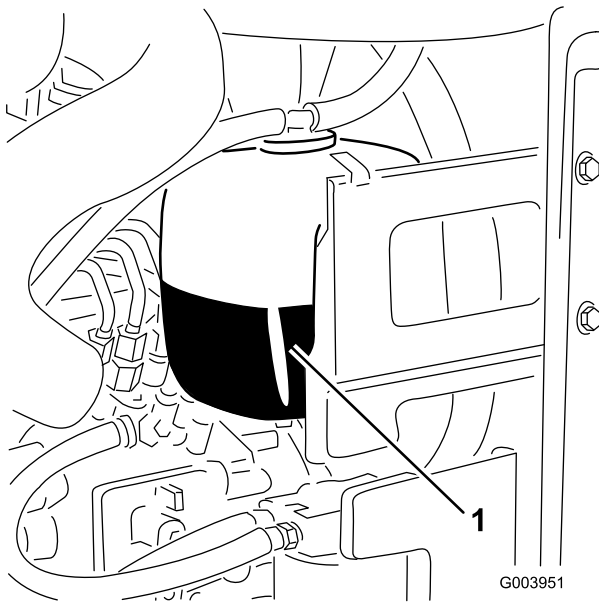

Figure 31
1. Check the level of coolant in the expansion tank (Figure 31).